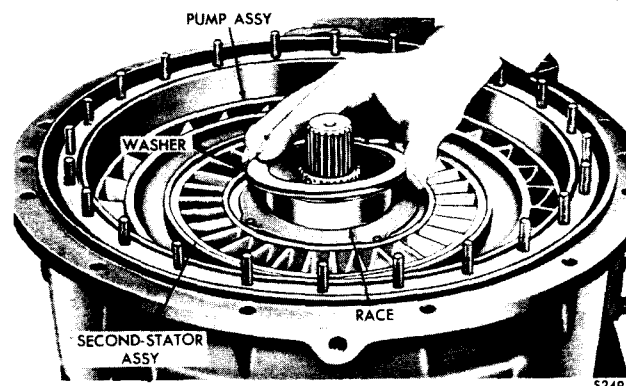

Fig. V-15. Removing (or installing) bronze spacing washer
(3) Remove the bronze spacing washer (fig. V-15).
(4) Remove the second-stator assembly. Refer to sect. VI, para 16 for rebuild of the stator assemblies.